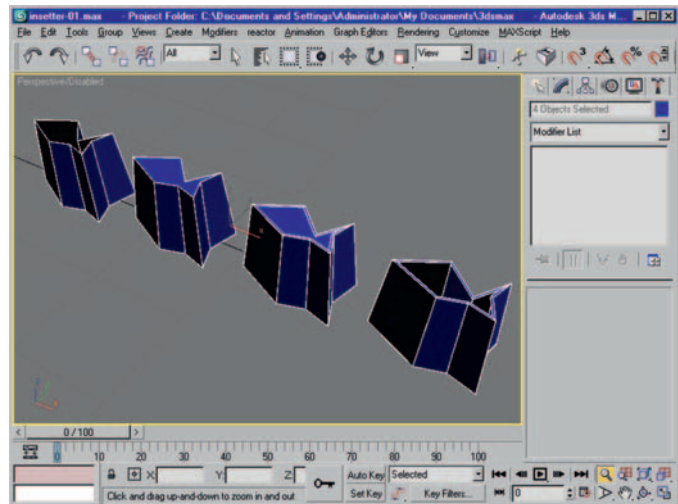

Figure 3.34 Base mesh, capped border, inset, and final mesh with polygon deleted.
6. Delete the new border as it isn't helping anything (Figure 3.34).
7. Select the original top border, and Cap it (Figure 3.34).
8. Select the new top polygon, and use an Inset on it (Figure 3.34).
9. Delete the new polygon, and you have just solved the problem (Figure 3.34).